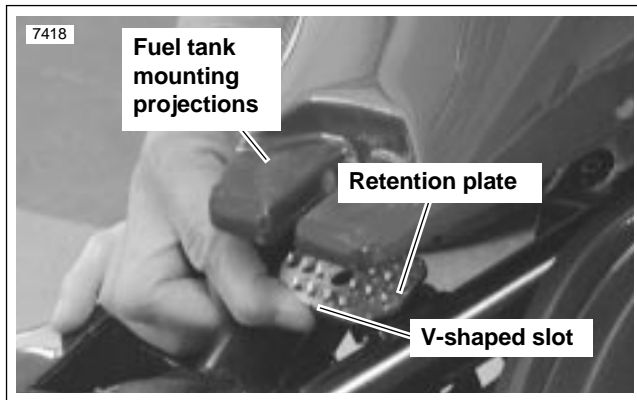

Figure 3. Bottom Plate
6. **S1/S1W/S3/S3T Models:** See Figure 3. Carefully raise the back of the fuel tank and place a mounting plate and a retention plate in position on the frame. Make sure shorter straight side of both retention plate and mounting plate face to rear of vehicle.
- M2/S2/S2T Models:** See Figure 3. Carefully raise the back of the fuel tank and place a retention plate in position on the frame. Make sure shorter straight side of retention plate faces to rear of vehicle.